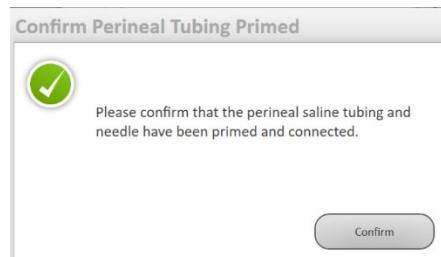

Figure 11-19: Confirm Perineal Tubing Primed
5. When the Pre-Treatment Vapor Cycle is complete, release the **Vapor Delivery Button (A)**. Confirm that there is no dripping from the drip chamber. If there is dripping, check that connections to the Auto-Refill Syringe are tight and do not proceed until dripping is resolved.
6. When the Pre-Treatment Vapor Cycle is complete, the screen will prompt: "Please confirm perineal tubing and needle have been primed and connected." (Figure 11-19).